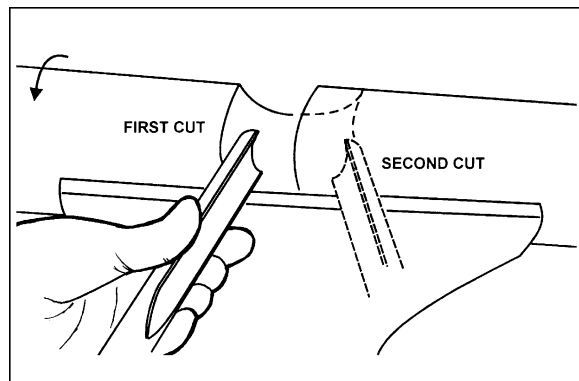

Figure 34
- Use a spindle gouge. With the flute of the tool at 90 degrees to the workpiece, touch the point of the tool to the workpiece and roll in towards the bottom of the cove. See Figure 34. **Stop at the bottom; attempting to go up the opposite side may cause the tool to catch.**